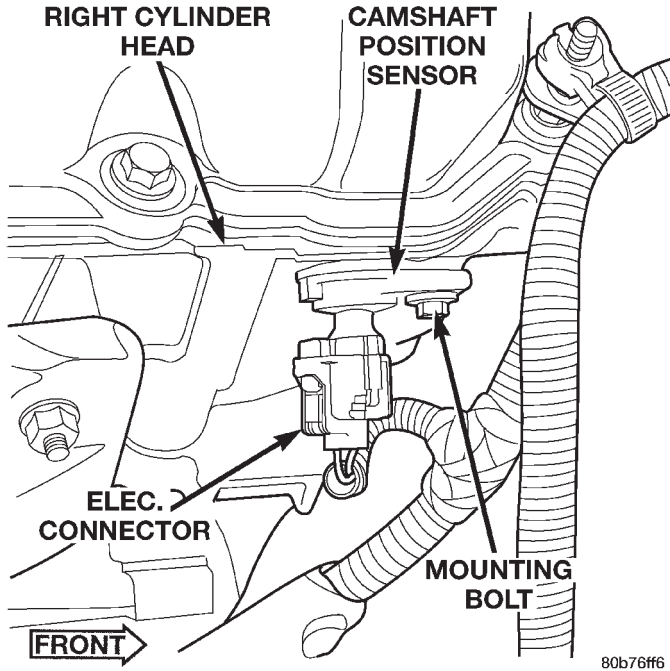

Fig. 36 CMP Location—4.7L Engine
The Camshaft Position Sensor (CMP) on the 4.7L V-8 engine is bolted to the front/top of the right cylinder head (Fig. 36).
(1) Raise and support vehicle.
(2) Disconnect electrical connector at CMP sensor (Fig. 36).
(3) Remove sensor mounting bolt (Fig. 36).
(4) Carefully pry sensor from cylinder head in a rocking action with two small screwdrivers.
(5) Check condition of sensor o-ring.